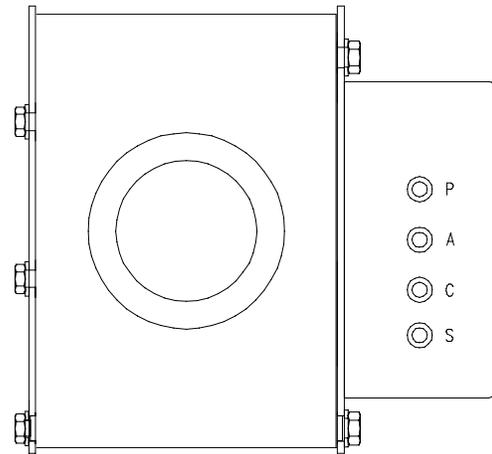

Fig. 3.16 Gun Flush Box Bottom View
8. Connect another air line (A1) from the atomizing air shutoff valve (L) to port **S** on the gun flush box. See Fig. 3.16.
9. Connect 5/32" (4 mm) OD air tubes (A2) between the gun flush solenoid box (G) ports and the gun flush box (H) ports. Refer to the table below and Fig. 3.16 for connection ports.